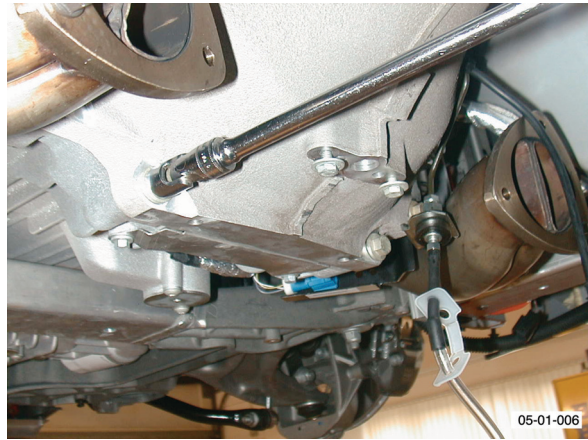

Fig. 5
10. With assistance, support torque tube and remove bolts (x16) that secure torque tube to engine (see Fig. 5).